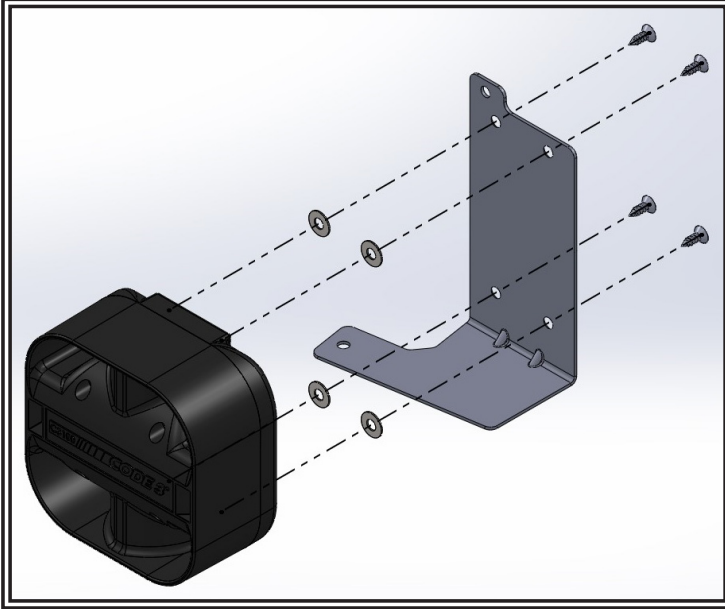

Figure 1
2. Attach desired speaker to bracket. Using hardware supplied in the bracket kit. See Figure 1. **Note: The washers supplied will fit between the speaker and the bracket.**